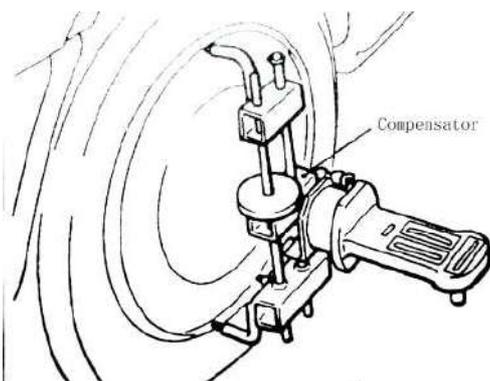

Fig.14A-2
- 2) For vehicles with aluminium wheels, attach the camber/caster gauge by using a compensator or special tool(MB991004). The special tool must be tightened to the drive shaft to the same torque $226 \pm 49N.m$ as the drive shaft nut. (Fig.14A-2)